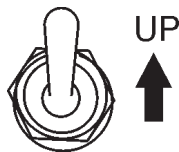

Figure 20. Idle Control Switch (Up)
2. Place the idle control switch (Figure 20) in the **ON** position (Up).